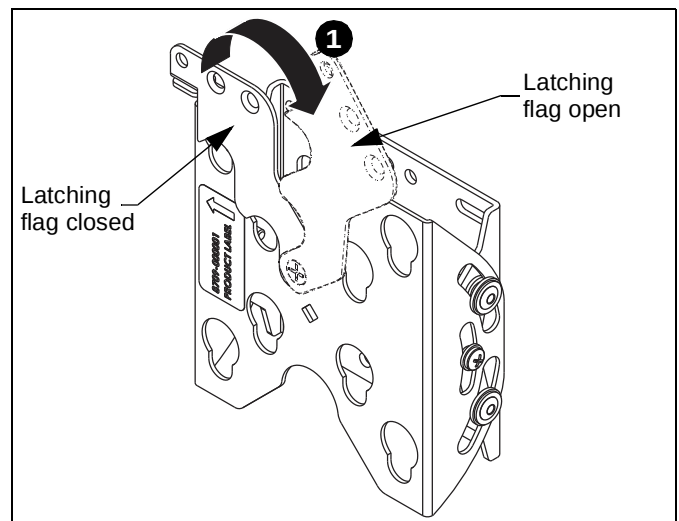

Figure 6
1. Open latching flag by rotating flag clockwise on FTR1U/ FTR100 assembly (A). (See Figure 6)